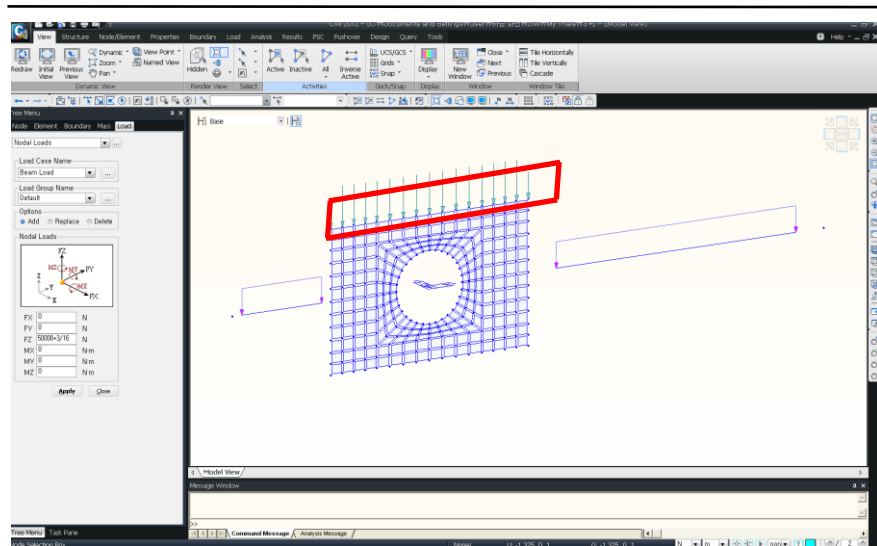

Figure 3.19 Concentrated Loads on the Opening Detail Model
8. Select the nodes where concentrated loads are applied as shown in Fig.3.19–①.
15. Click (Fig.3.19).